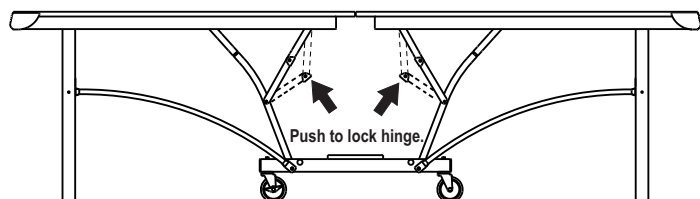

Figure 14
3. Lock all four center hinges. See Figure 14.
1. Set the table to the Playing Position and lock hinges as shown in Figure 14.